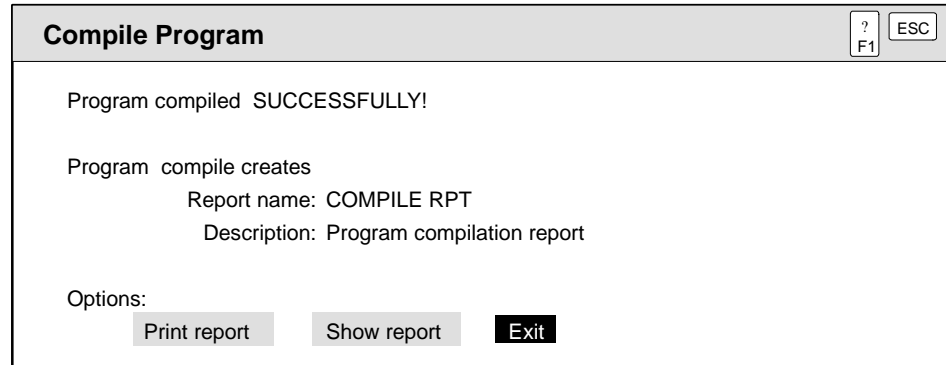

Figure 6-10 Printing or Showing the Compile Report
The dialog window in Figure 6-10 appears at the end of the compile operation and allows you to show or print the compilation report, or to exit to the hierarchy.
1. Use the arrow keys to move the text cursor to the appropriate option (see Figure 6-10).